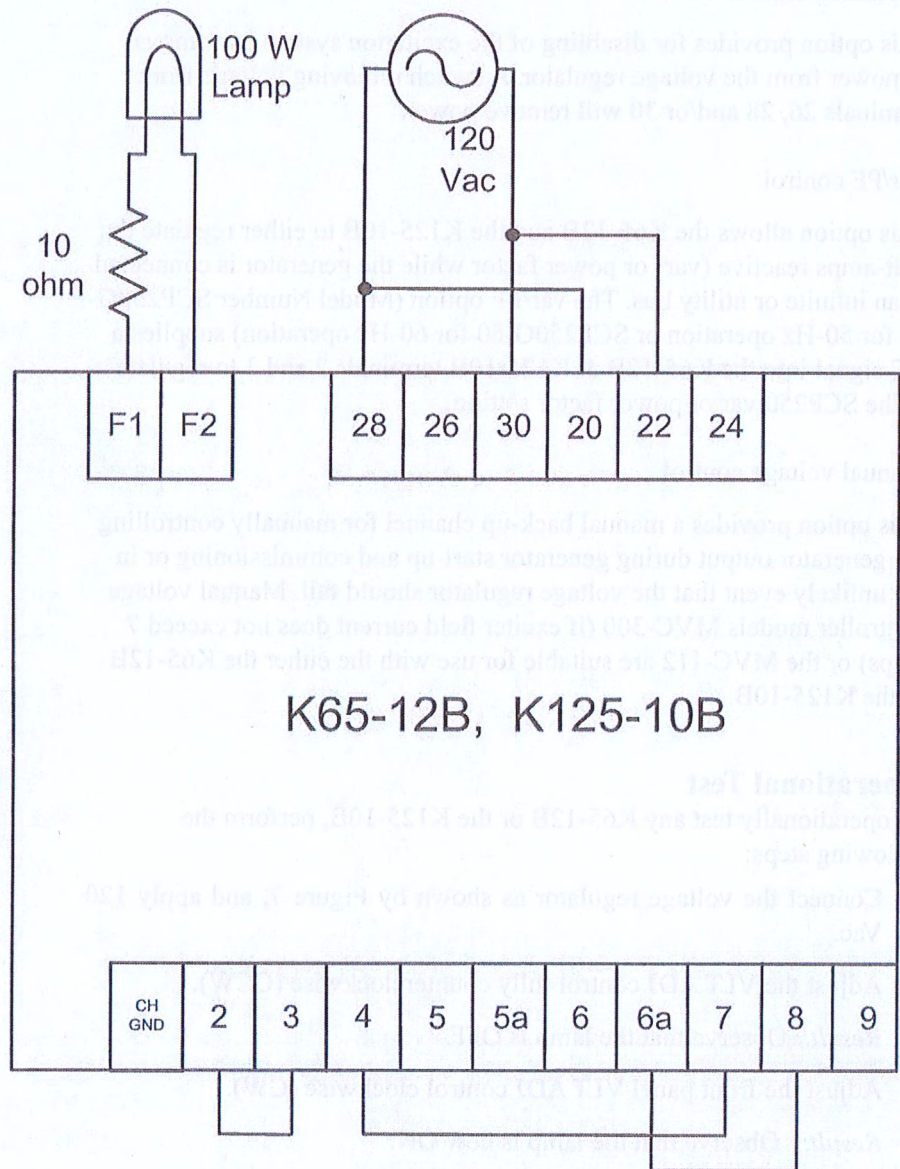

Figure 7: Operational test setup
- a. Connect the voltage regulator as shown by Figure 7, and apply 120 Vac.
- c. Adjust the front panel VLT ADJ control clockwise (CW).